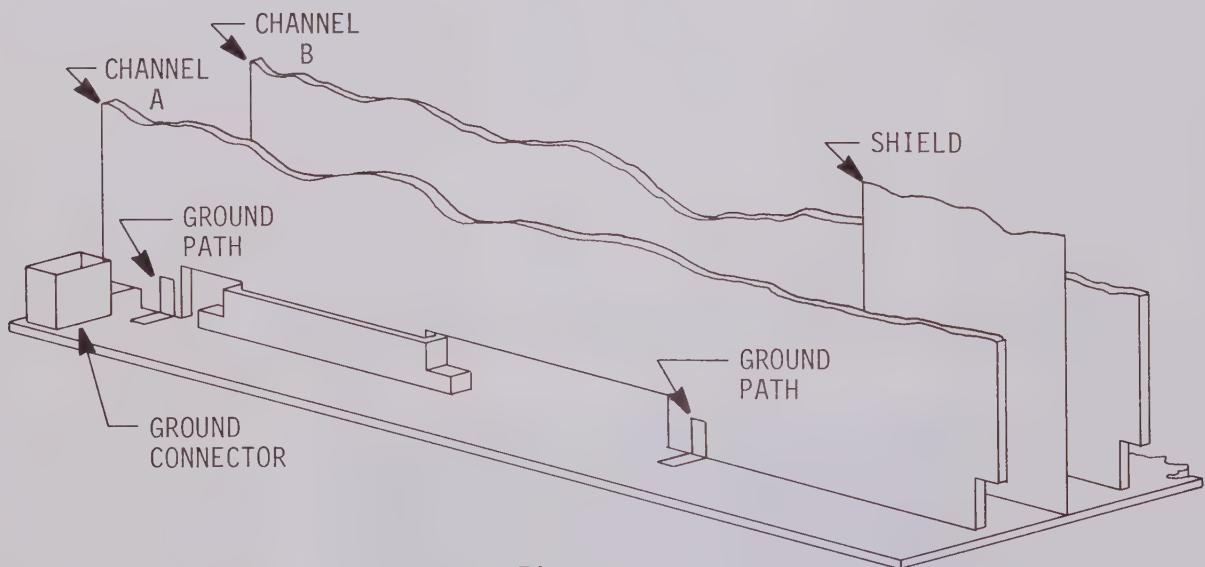

Figure 2
1. Unplug the Ground Connector. See Figure 2.